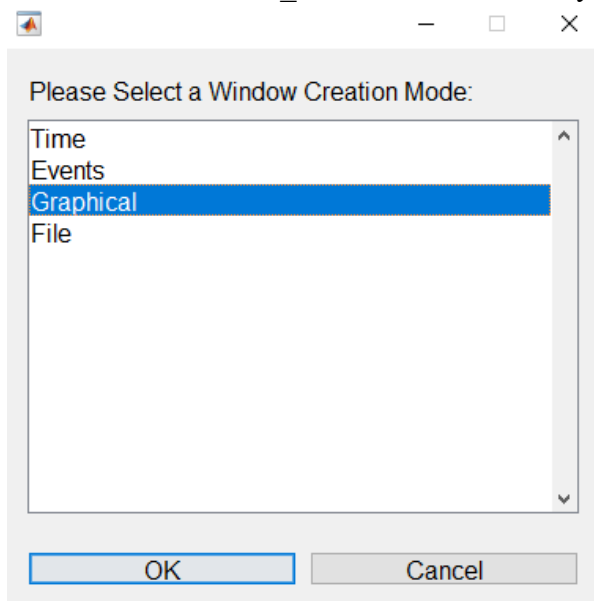
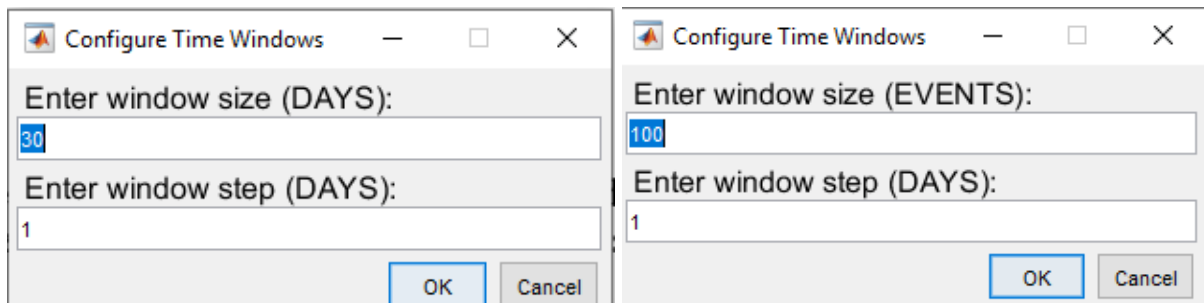
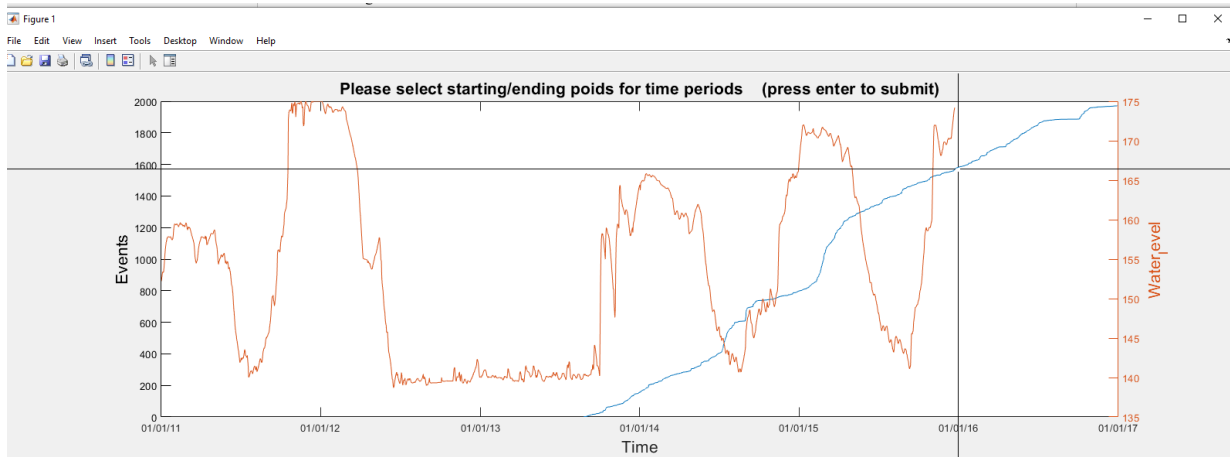
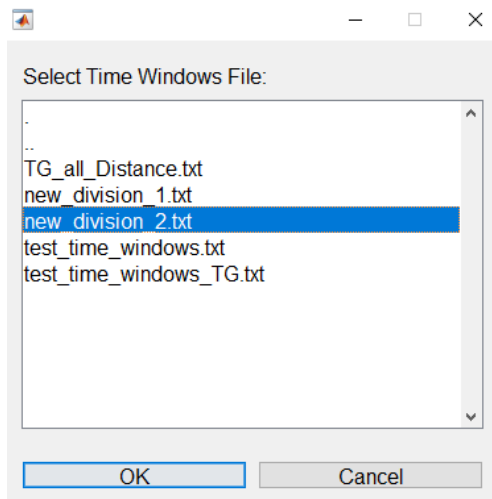

Fig. 13. Time Windows Generation Mode Selection.
Fig. 14. Parameters Set for Time Windows Generation.
Fig. 15. Graphical Selection of Time-Windows.
Fig. 16. Selection of Time-Windows from a file.
STEP 5. Time Windows Generation: In this step the data is divided according to time windows defined by the User, by means of 4 different modes. 'Time', 'Events', 'Graphical' and 'File' (Fig. 13). If 'Time' mode is selected the User has to define the window size (in days) and the window step (in days), by typing values in the corresponding fields in a pop-up window which appears in the screen (Fig. 14 left frame). If 'Events' mode is selected the User has to define the window size (in events) and the window step (in days), by typing values in the corresponding fields in a pop-up window which appears in the screen (Fig. 14 right frame). Alternatively, the User can select 'graphical', for graphical selection of subsequent points from a plot (Fig. 15). The first point corresponds to the starting point of the first period, the next point corresponds to the ending points of the first period and at the same time to the starting point of the next period etc. To define the ending point of the last period, the User has to press 'Enter'. Finally, if 'File' is selected, the User is requested to select a file containing the starting and ending points of time windows, which is located in the "TIME_WINDOWS" directory (Fig. 16).